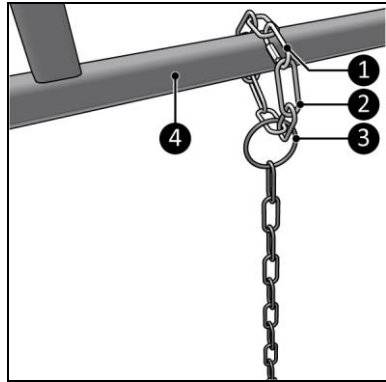

Figure 8
1. Place the additional hanging chain (30 cm) (Figure 8, pos. 2) through the ring of the hanging chain (50 cm) (Figure 8, pos. 3) and over the frame (Figure 8, pos. 4).
2. Attach a karabiner hook (Figure 8, pos. 1) to both ends of the additional hanging chain (30 cm) to close the loop.